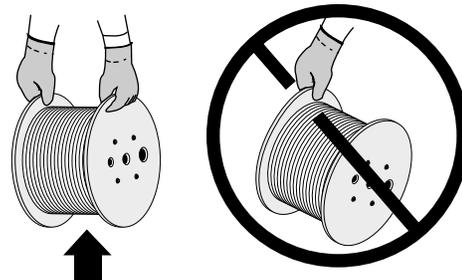

Figure 3
**4.2** Always lift a plywood reel by both flanges (Figure 3) Do not pick up a reel by one flange. Picking up a reel by one flange causes the flange to bow which creates a gap between the cable and flange. Over time the traverse will soften in the gap area and cause the cable to cascade.